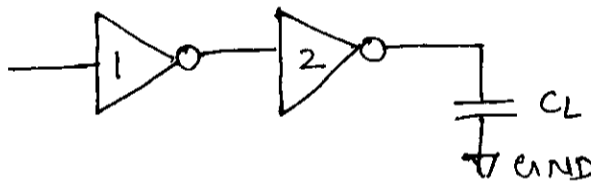

Fig.Q.3(b)
- b. Two nMOS inverters are cascaded to drive a capacitive load  $C_L = 16 \square C_g$  as shown in Fig.Q.3(a). Calculate the pair delay ( $V_{in}$  to  $V_{out}$ ) for inverter geometry shown in Fig.Q.3(a). What are the ratios of each inverters? If strays and wirings are allowed for it would be reasonable to increase capacitance to ground across the output of each inverter by  $4 \square C_g$ . What is pair delay allowing for strays? Assume ( $\tau = 0.3 \text{ nsec}$  for  $5\mu\text{m}$  MOS technology). (10 Marks)